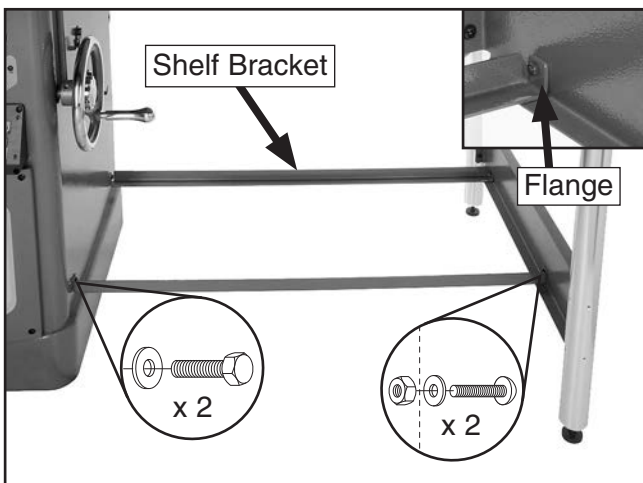

Figure 11. Shelf brackets installed.
12. Place (2) shelf brackets between cabinet and extension table support legs, and fasten with (2) M6-1 x 12 Phillip head screws, (2) M6-1 x 12 hex bolts, (4) 6mm flat washers and (2) M6-1 hex nuts, as shown in **Figure 11**.